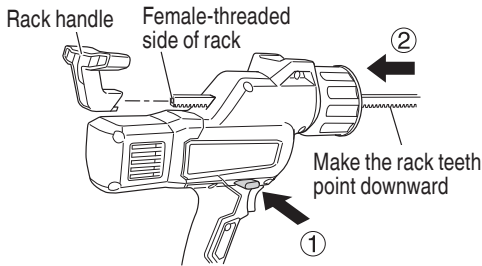

Fig. 15
- (1) While pressing the release button to release the lock, insert the rack from the front side of the main body. Insert the rack so that the teeth are facing downward and the female threads are on the rack-handle side. (Fig. 15)